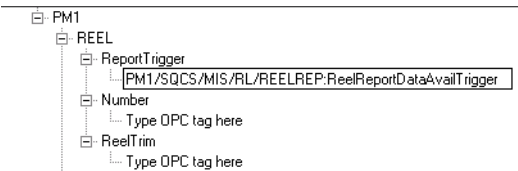

Figure 215. OPC Tag for REEL Trigger Specified
- 2. Enter the OPC tag for the trigger that indicates the occurrence of a reel turn-up. An example is shown in Figure 215.